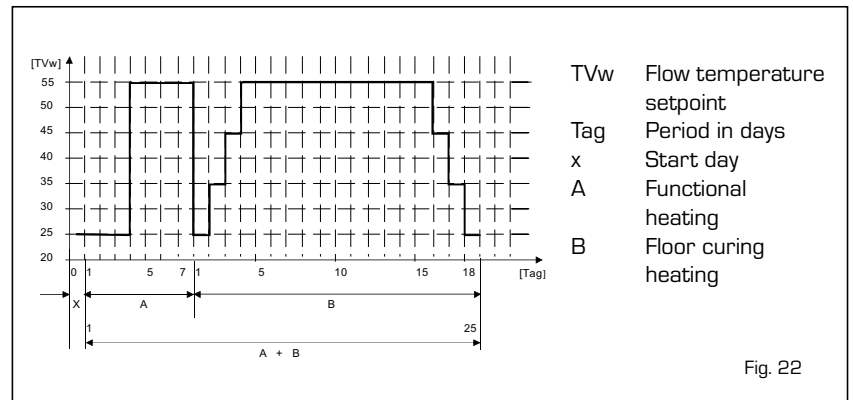

Fig. 22
4.5.3 Pump high efficiency diagnose and remedy (fig. 22/b)